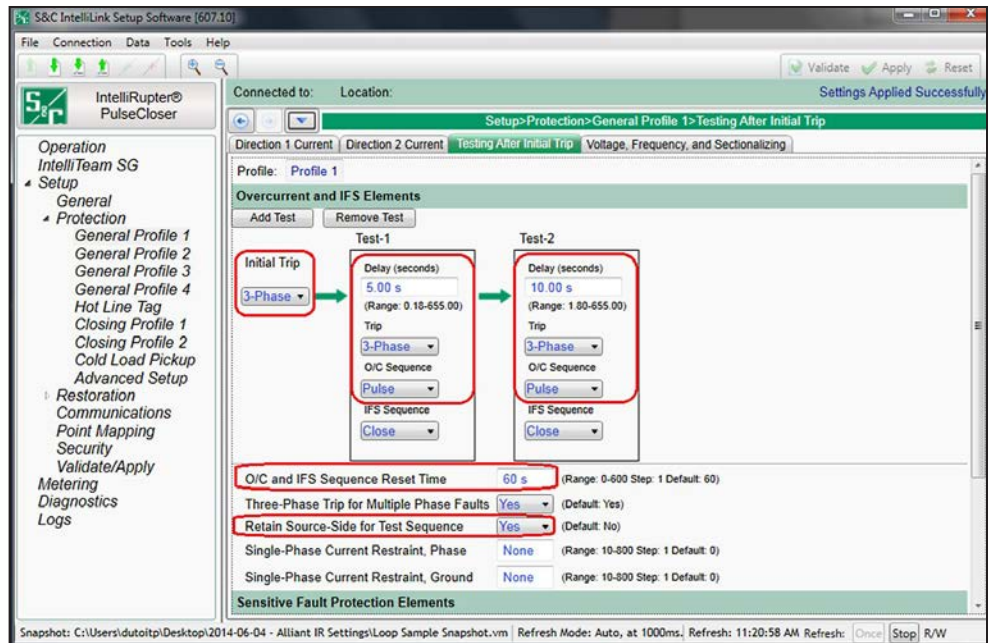

Figure 81. The Setup>Protection>General Profile 1>Testing After Initial Trip>Overcurrent and IFS Elements screen.
STEP 9. Adjust the **Overcurrent and IFS** elements on the *Testing After Initial Trip* screen. See Figure 81 on page 165.